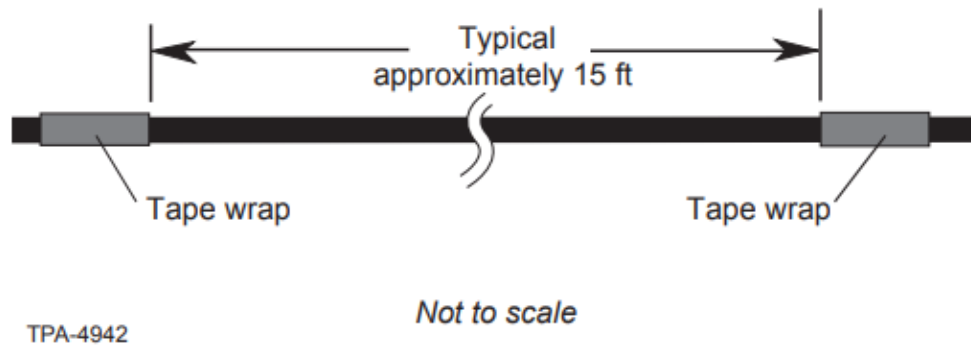

Figure 14
**Step 1:** Identify the location to access the jacket for mid-span cable entry and mark each end with a wrap of tape. Typical access length is 15 ft (Figure 14).